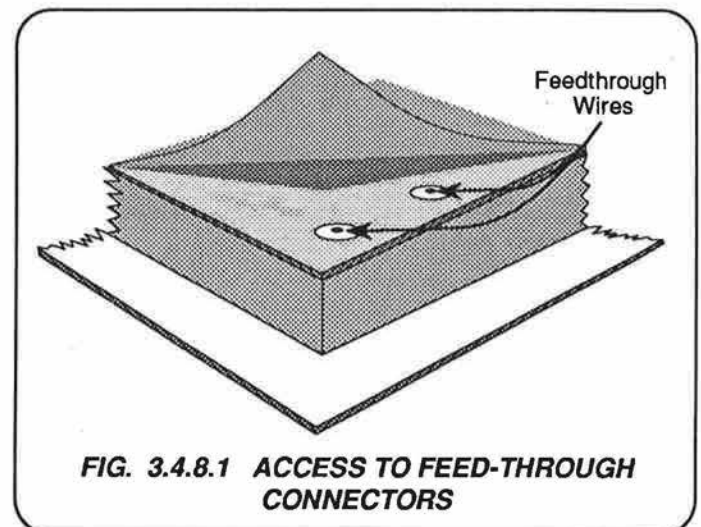

FIG. 3.4.8.1 ACCESS TO FEED-THROUGH CONNECTORS
6. Gently lift up the corner of the insulating card where it lies over the two feed-through connectors in the assembly's upper screen and unsolder the two feed-through connector wires as shown in *Figure 3.4.8.1*. (If gentle pressure is applied to the D-type connectors while heat is applied to the solder joints, the Digital PCB should lift clear of the two feed-through connector wires.)